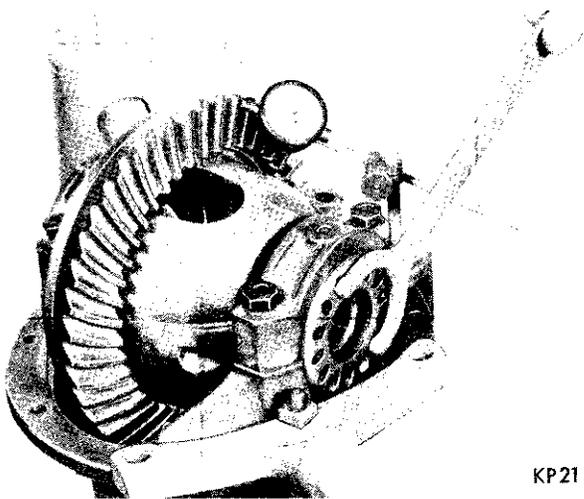

Fig. 31—Measuring Backlash between Drive Gear and Pinion
(1) Attach a dial indicator Tool C-3339 to carrier flange so pointer of indicator is squarely contacting one drive gear tooth (drive side) (Fig. 31).
(2) Measure backlash between drive gear and pinion at four positions, approximately 90 degrees apart. After point of least backlash has been determined, mark drive gear. **Do not rotate drive gear from point of least backlash until all adjustments have been completed.**
(3) Using Tool C-406A (spanner wrench) turn both bearing adjusters equally (in same direction) until backlash between drive gear and pinion is .0005 to .0015 inch. **This backlash variation is given to permit alignment and installation of the bearing adjuster lock, lockwasher and attaching screw. The adjuster must only be turned in a clockwise direction and under no circumstances should be backed off.**
(4) Install adjuster lock on bearing cap, back-face side of drive gear. Tighten lock screw to 15 to 20 foot-pounds.